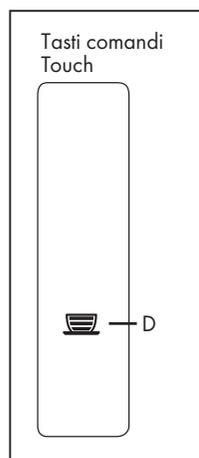

Fig. 8
- Switch on the machine and within one second press and hold down the button  (D) for about 3 seconds (Fig. 8).
- Switch off the machine with the button (2) to save and quit programming mode.